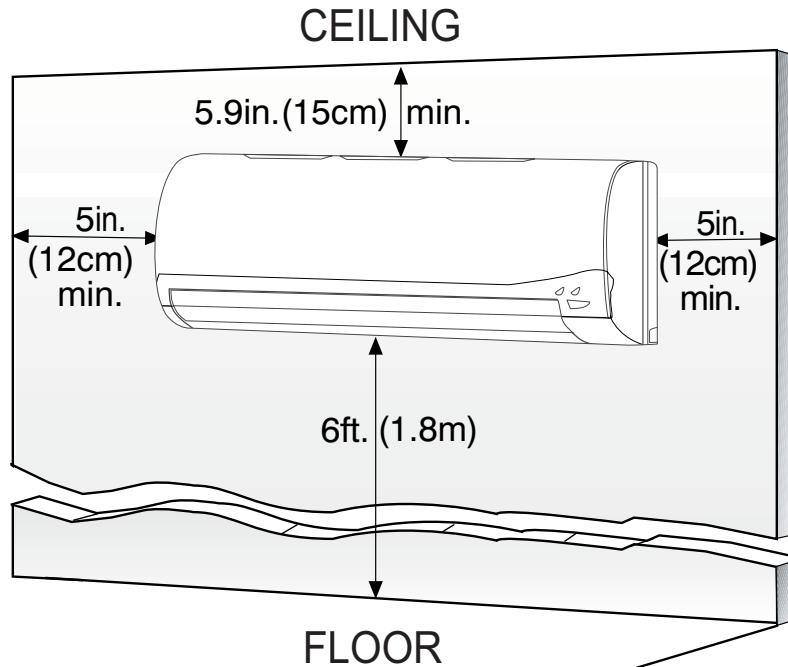

Fig. 8 — Clearances
Allow sufficient space for airflow and unit service. See Fig. 8 — on page 9 for the minimum required distances between the unit and walls or ceilings.
- A location which provides appropriate clearances (See Fig. 8 — on page 9.)
2. Using the stencil, determine the wall hole position. The mounting plate should be located horizontally and level on the wall. All minimum spacings (See Fig. 8 — on page 9) should be maintained.
Different model sizes have different mounting plates. Ensure there's enough room to mount the indoor unit (See Fig. 8 — on page 9).